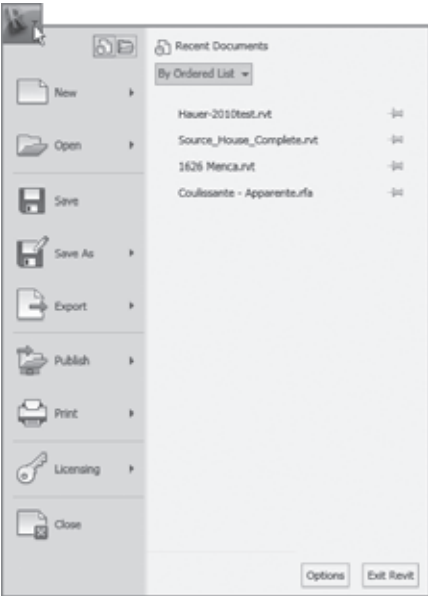

Figure 2.3
**The Application Menu** The big purple R on top left of your screen (Figure 2.3) is what we will be referring to as the *Application button* or *Application Menu*. Clicking this button